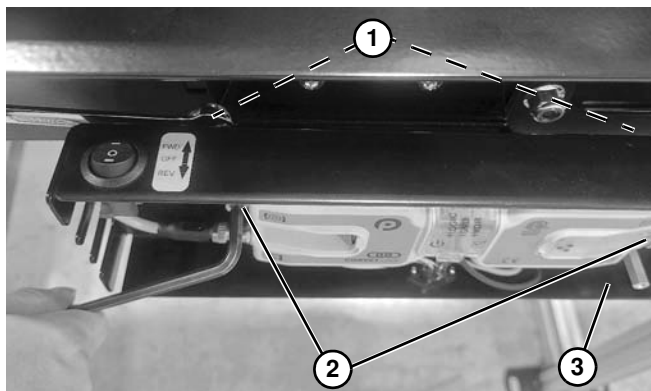

Figure 212
3. Remove two nuts (**Figure 212, item 1**) and screws (**Figure 212, item 2**) securing controller assembly (**Figure 212, item 3**) onto mounting bracket.